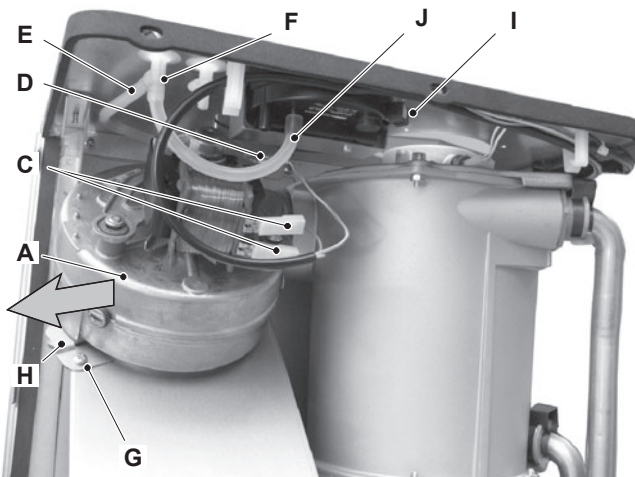

Figure 14.4
- 2 Disconnect the connectors C and the earth connection D (Figure 14.4).
- 3 Disconnect the pipe E by the pressure test point F (Figure 14.4).
- 4 Unscrew the screw G and remove the bracket H (Figure 14.4).
- 5 Remove the Fan by sliding it towards left (see the arrow in Figure 14.4).